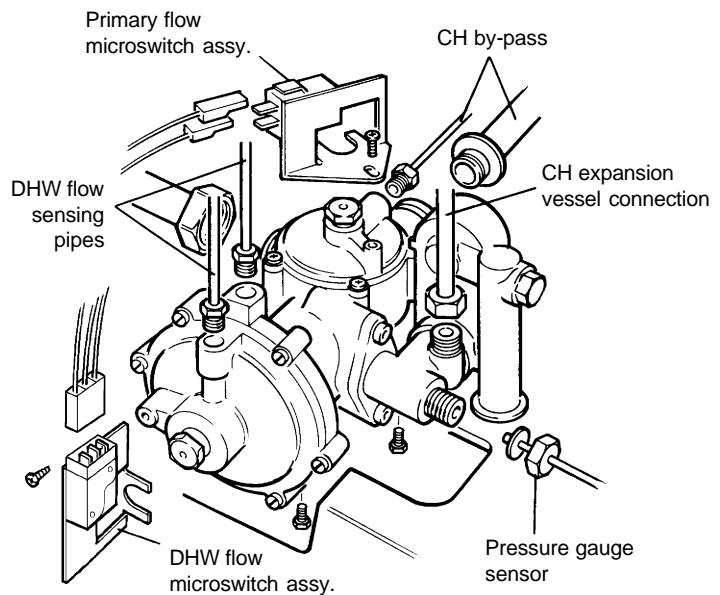

Fig. 35
8.33 DIVERTER VALVE ASSEMBLY - Fig. 35